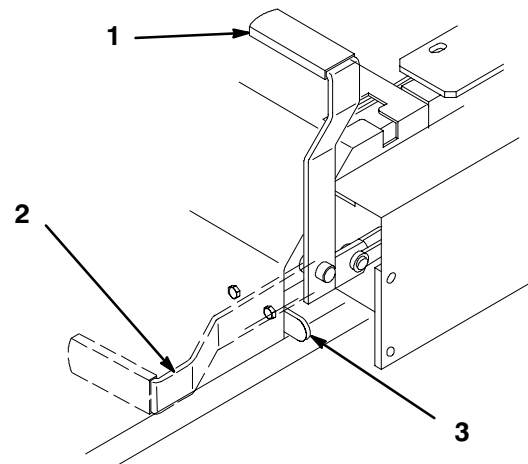

Figure 2
2. Pull back and up on the parking brake lever to set the parking brake (Fig. 2). The parking brake lever should stay firmly in the “ENGAGED” position.
1. Push forward and down on the parking brake lever release the parking brake (Fig. 2). The parking brake is “DISENGAGED” and the lever rests against the brake stop.